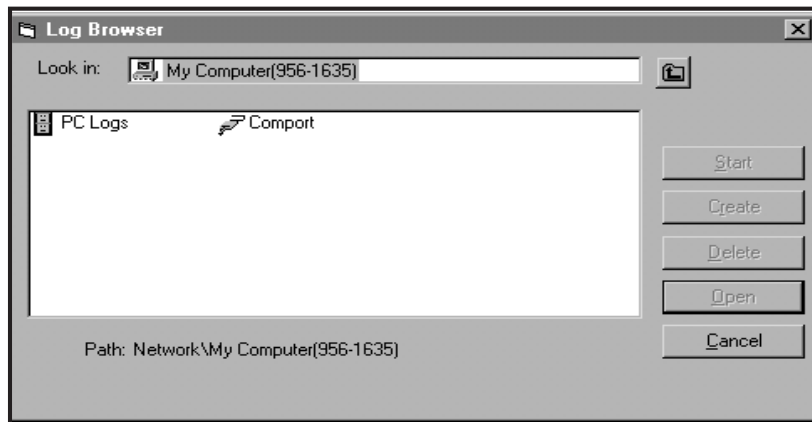

Figure 15: Log Type Selection
2. Double click on the *computer name* to advance to the dialog box shown in *Figure 15* below.